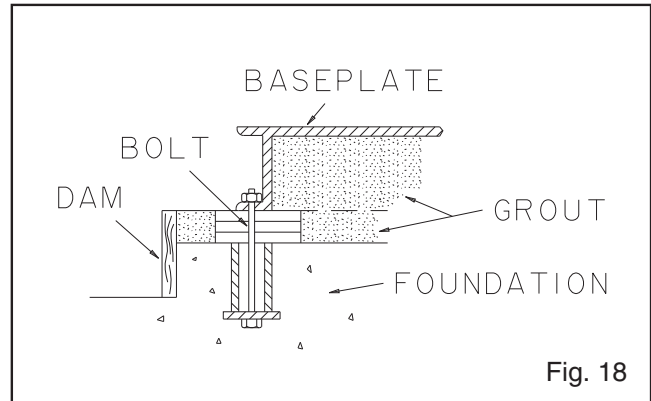

Fig. 18
5. Fill remainder of baseplate with grout. Remove air as before (Fig. 18).